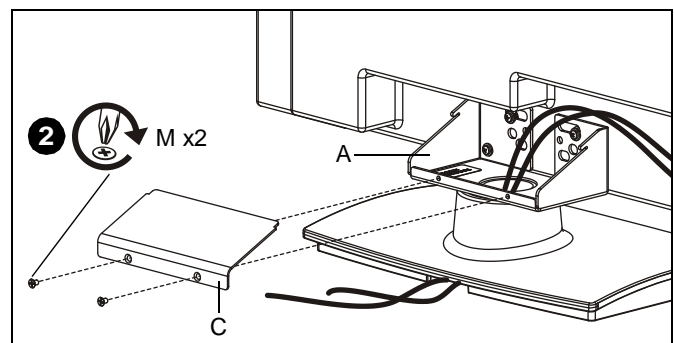

Figure 8
2. Slide cover (C) under tabs in stand (A). Ensure that cables are not pinched (See Figure 8). Secure in place with screws (M).